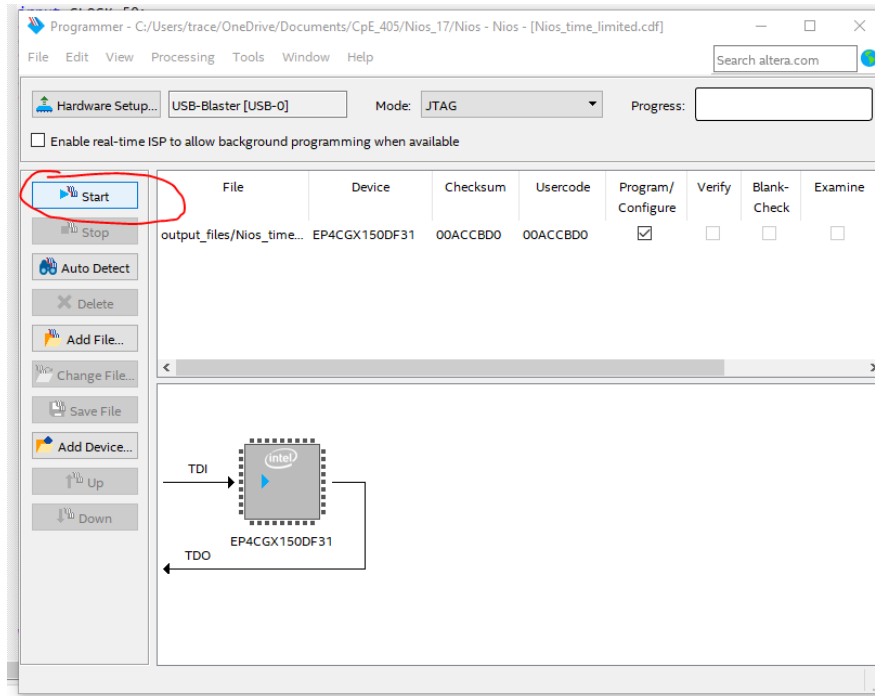

Figure 2-12 Quartus Programmer
7.) Now we will select our file and device we want to program and then program the board as shown in Figure 2-12. Make sure your board is connected to your computer and it is turned on.